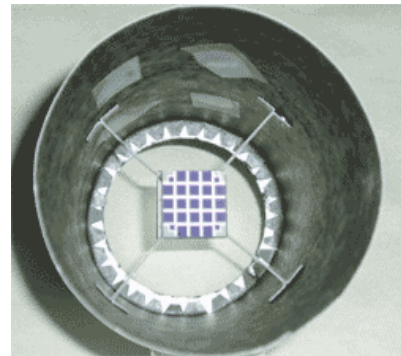

Figure 1
13. Install the spider into the photometer.. Apply glue to the feet on the 4 ends of the spider assembly. Insert it into the photometer tube from the wide end to the point where the circular seam is on the outside. The "CCDs" should face the "mirror", bottom. See Figure 1.